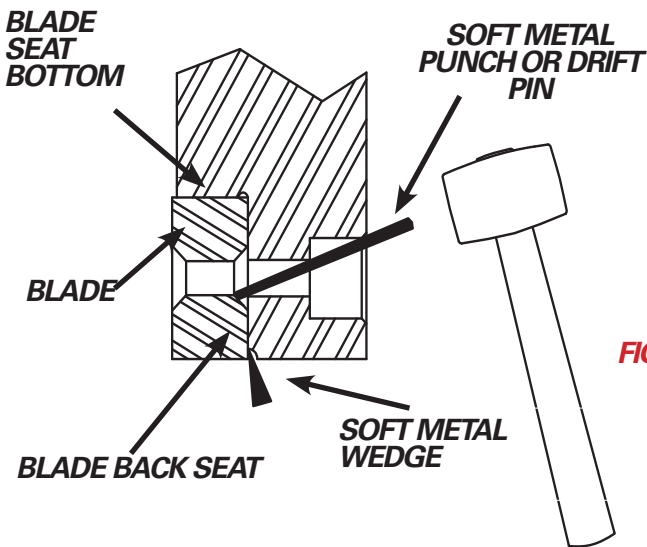

FIGURE 7-16
3. If the blade is jammed in the seat and is difficult to dislodge, take a soft metal punch or drift pin and insert it in a blade bolt hole from the back side (nut side, see Figure 7-16). Place the punch at an angle against the inside countersink of the blade and strike the punch with a hammer or mallet.